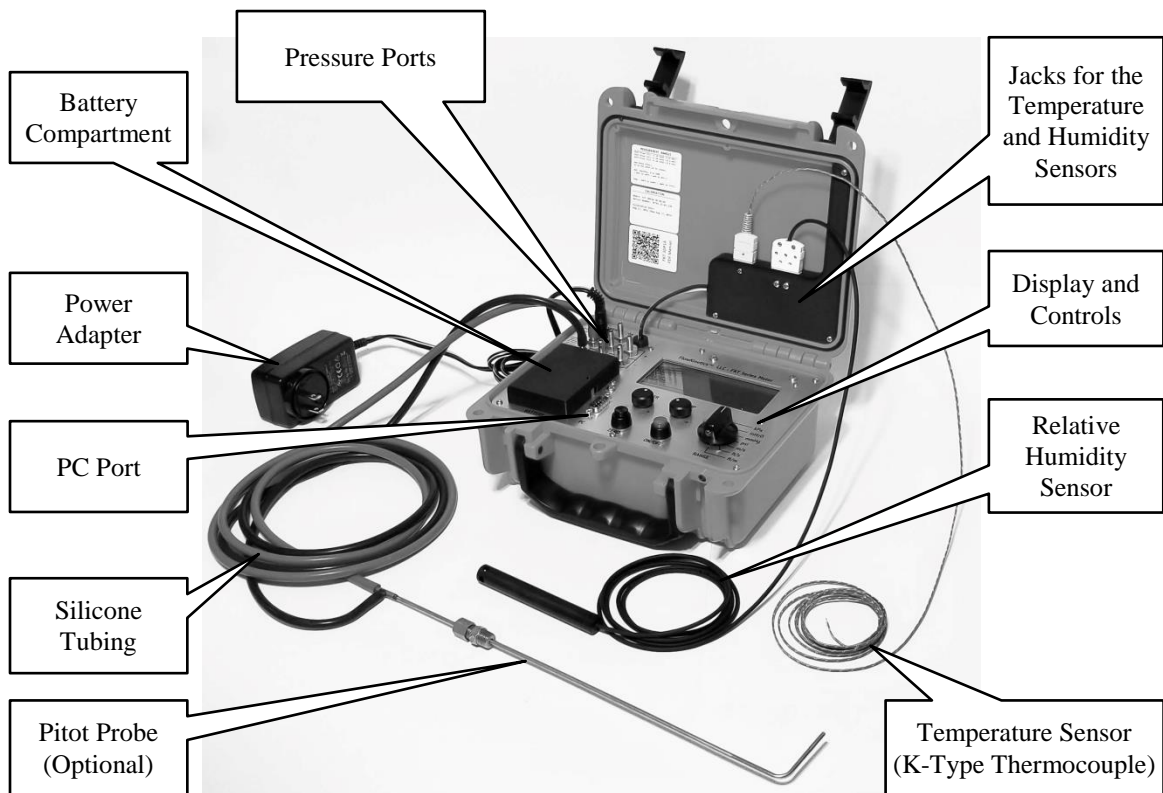

Fig. A1 FKT series components
The FKT series of instruments are portable, self-contained micro-processor based process/pressure acquisition systems. The FKT series allow for the simultaneous measurement and display of one (FKT 1DP1A-SV), two (FKT 2DP1A-C) or three (FKT 3DP1A) independent differential pressures as well as concurrent measurement and display of atmospheric pressure, target gas temperature and relative humidity (RH). The last three parameters are used to calculate density, which is also displayed. In conjunction with a Pitot Static tube, the series can display measured speed accounting for true gas density, ρ , (all models) and compressibility i.e. $\rho \neq \text{constant}$, (FKT 2DP1A-C series). The FKT 1DP1A-SV can be used to perform surveys of ducts as well as estimate the standard deviations of measured pressures and speeds. The instruments interface with a PC allowing data logging functions and can configure as a component of a data acquisition system. Figure A1 identifies the components of the series.